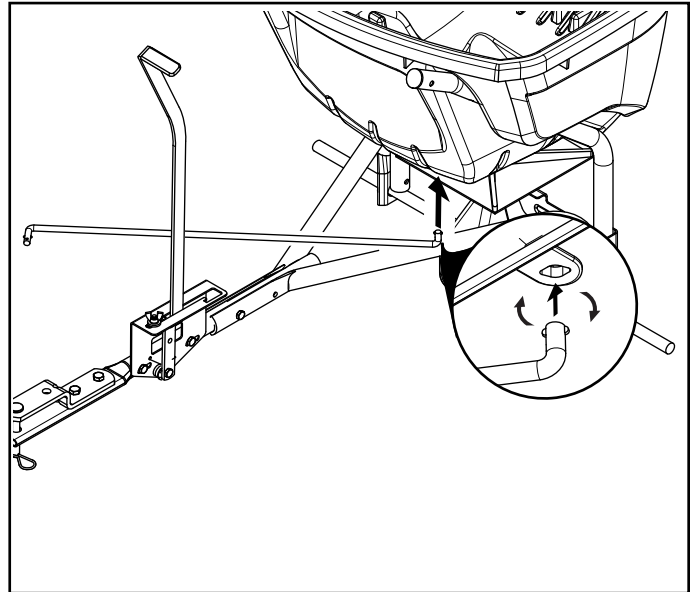

FIGURE 11
STEP 11: (SEE FIGURE 11)
- Install the end of the flow control rod (10) with no hole into the elongated hole in the flow plate on the bottom of the hopper. Lock the rod in the flow plate by rotating the rod.